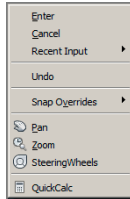

FIGURE 2.9 This context menu appears when you hold down the right mouse button longer than 250 milliseconds.
9. Right-click again to repeat the last command, and then click two points on the canvas. Next, slowly right-click (holding down the right mouse button for longer than 250 milliseconds, to be precise), and you'll see the context menu shown in Figure 2.9. Left-click on the word **Enter** in this menu to complete the **LINE** command.